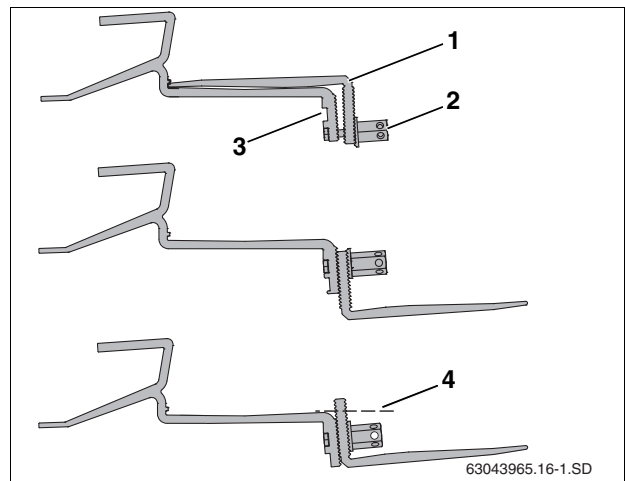

Fig. 15 Repositioning lower part of roof hook
- Loosen the long hex-nut (Fig. 15, [2]) and disassemble the unit.
- Insert bolt into upper hole (Fig. 15, [3]).
- Reassemble with the L-shaped piece (Fig. 15, center) facing away and down.
- Do not tighten the nut (Fig. 15, [2]) until the hook is installed and properly adjusted.